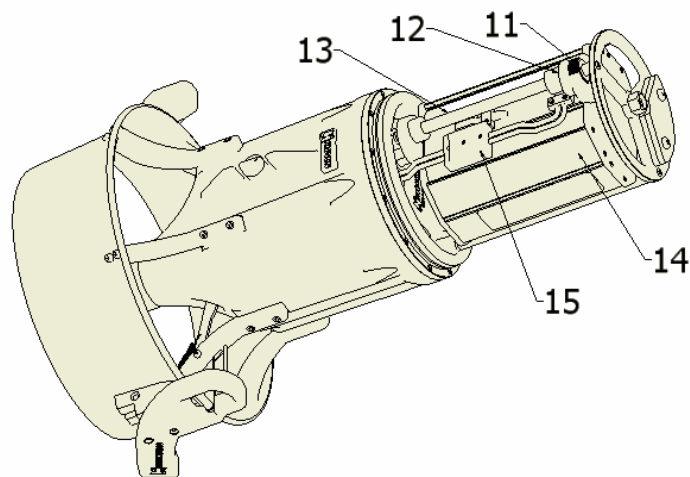
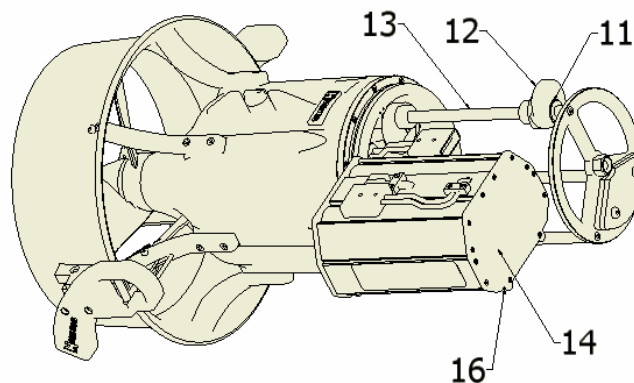
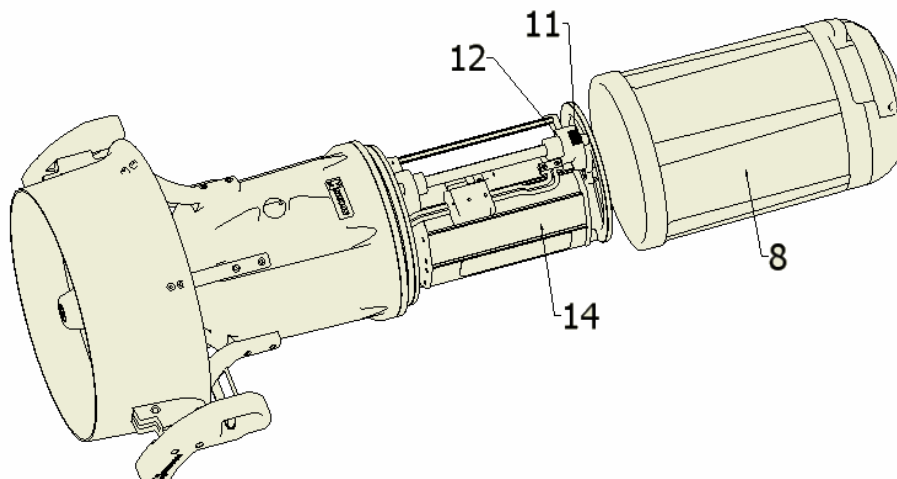
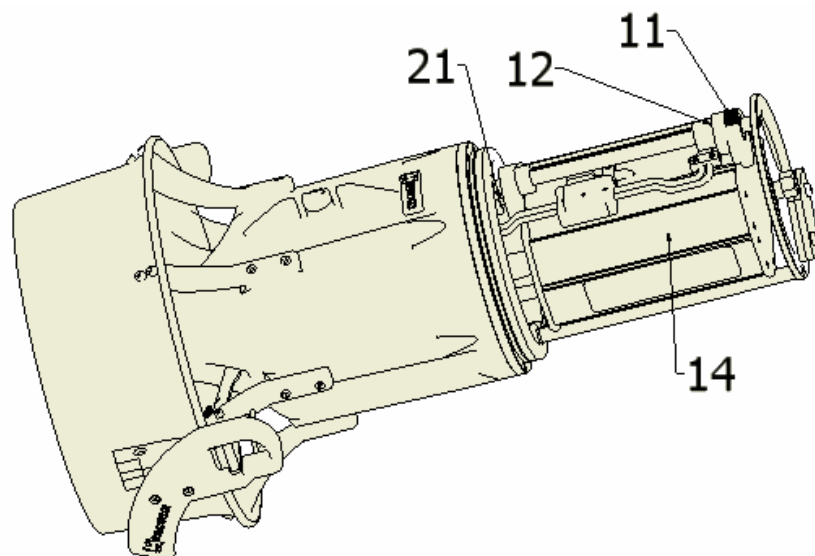

Figure 2
Figure 3
Figure 5
Figure 10
After removing the shell, stand the HDV vertically, detach the red connector (15) (do not pull the wires), unscrew the ring nut (11), remove the terminal (12) (see fig. 2) and extract the battery (14) pulling it upwards off the rod (13). (see fig. 3)
With the HDV in vertical position, repeat the battery extraction procedure in reverse order, being careful to insert the rear stops (16) between the battery support rods (see fig. 3). After inserting the battery, connect the terminal (12) and tighten without forcing the ring nut (11) (see fig. 5) being careful to only connect the red connector (15) if the HDV is immediately used.
As for trim, you can change factory settings by moving the battery along the rods (13) fig.3. Remove the battery, rotate the screw (21) with a 5 mm Allen key, screwing in or out to adjust the battery position. Screwing it in, the HDV tends to position itself with the rear sinking, unscrewing it causes the opposite. Replace the battery connect the terminal (12) and the ring nut (11) try the HDV in the water until the desired settings are reached (see fig. 10).